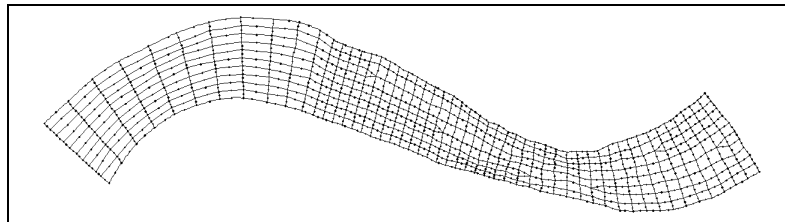

Figure 3-11. Example nodestrings for smoothing the mesh boundary.
3. Select *Elements | Smooth Nodestring*. The mesh boundary will be smoothed as shown in Figure 3-11.